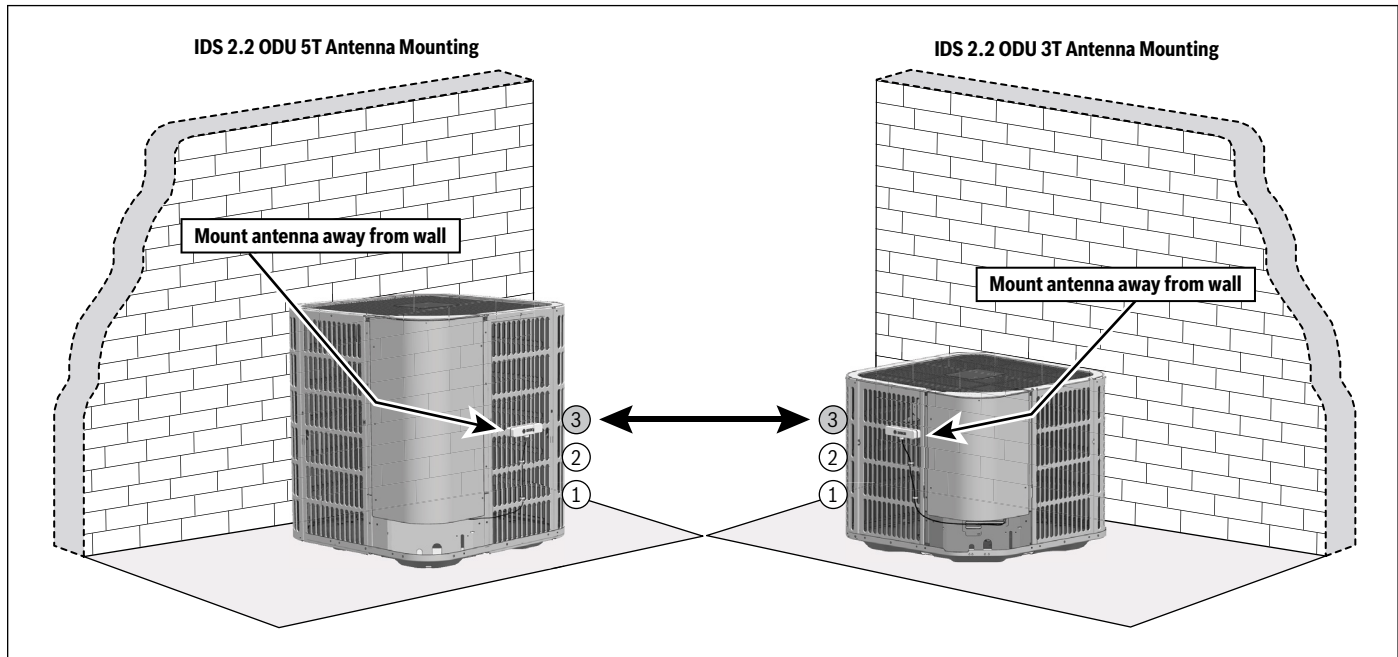
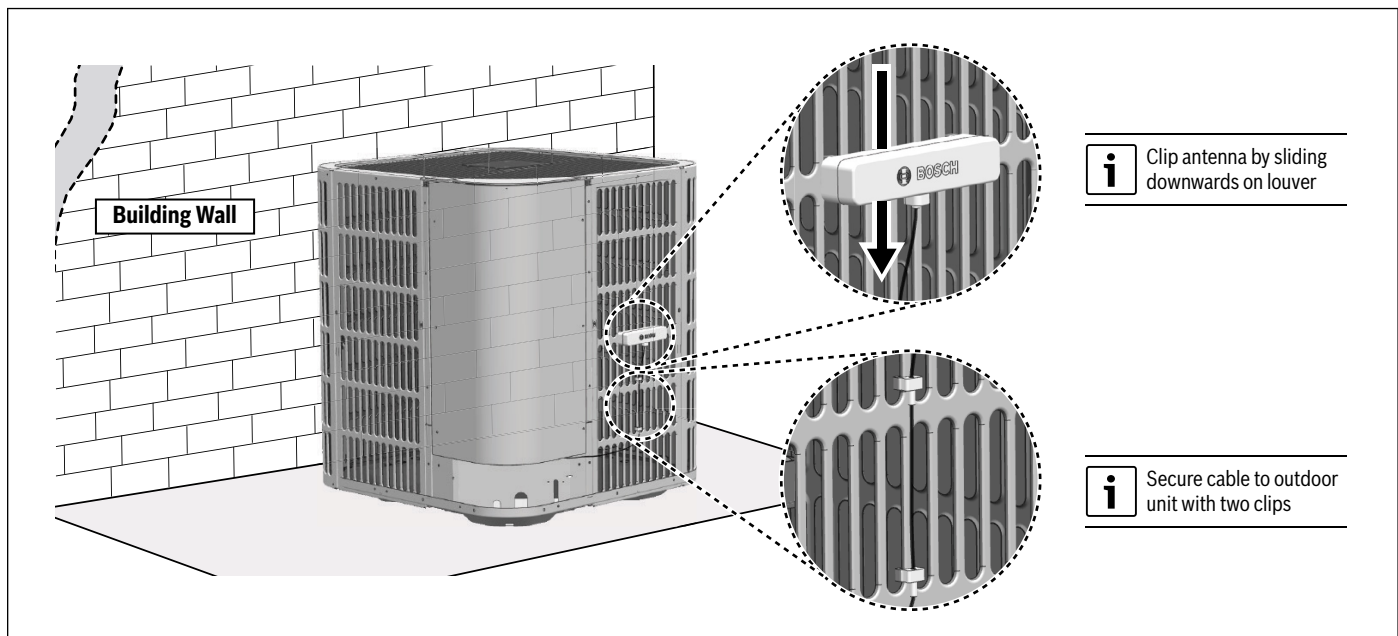

Figure 13
Figure 14
1. Mount antenna on top of louver 3 (Refer to figure 13) on the left or right side of the unit depending on which is furthest from a wall. Slide the antenna downwards to mount the antenna and secure the cable using the 2 movable clips on the cable. Refer to figure 14.
Determine required line length (Fig. 14). Refer to Section 2.2.